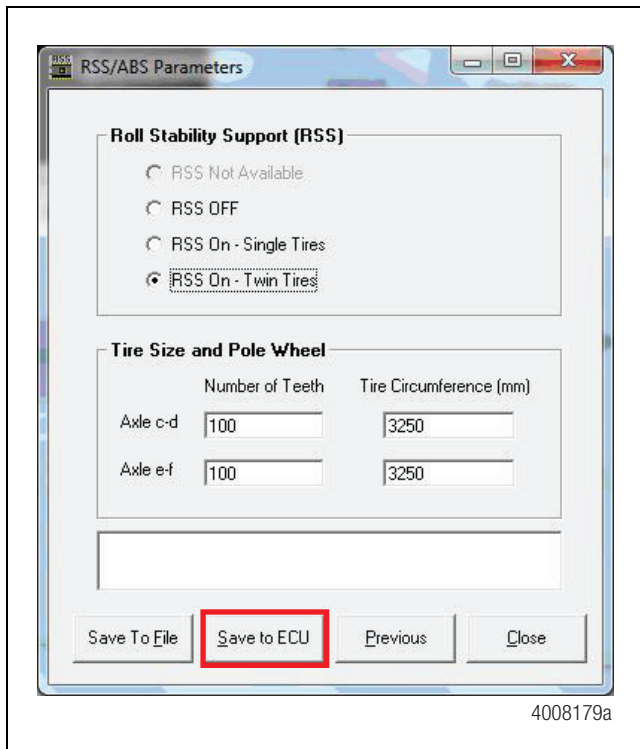

Figure 11
- From the screen labeled **RSS/ABS Parameters**, press the **Save to ECU** button at the bottom of the screen. **NOTE:** Ensure that one of the **RSS On** options is selected. Figure 11.